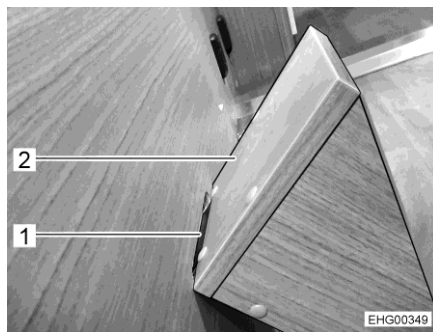
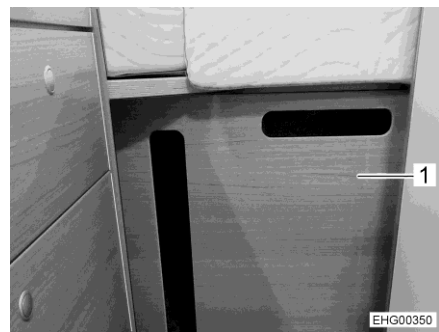

Fig. 35 Step unit
Fig. 36 Partition wall with step unit
- Attach the step unit (Fig. 35,2) to the bottom cut-out (Fig. 35,1) of the partition wall (Fig. 36,1).
- Insert the partition wall (Fig. 36,1) between the longitudinal rear beds. In order to do this, attach the partition wall in the second position (as seen from the kitchenette).